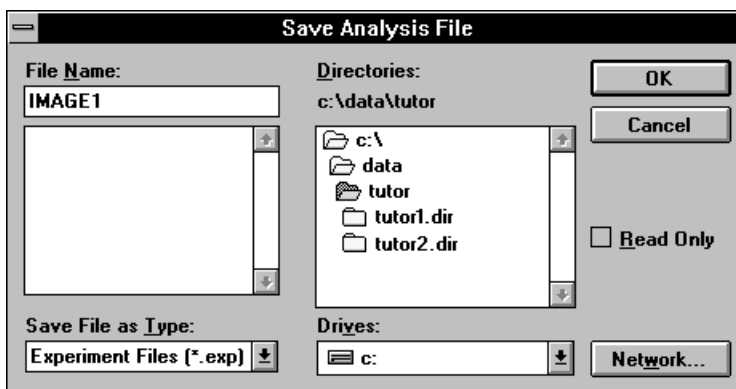

Figure 4-8. Saving the analysis.
To save the experiment analysis, click the **Save Analysis** button in the Band Statistics inspector (or open the **File** menu, select **Experiment Analysis** to display a submenu, and then select **Save**). The Save Analysis File window appears (figure 4-8). In the **File Name** box, type a name for the analysis file, and then click **OK**. (Fragment Analysis adds the .exp extension.)
1. In the Band Statistics inspector, click the **Save Analysis** button. The Save Analysis File window appears (figure 4-8).